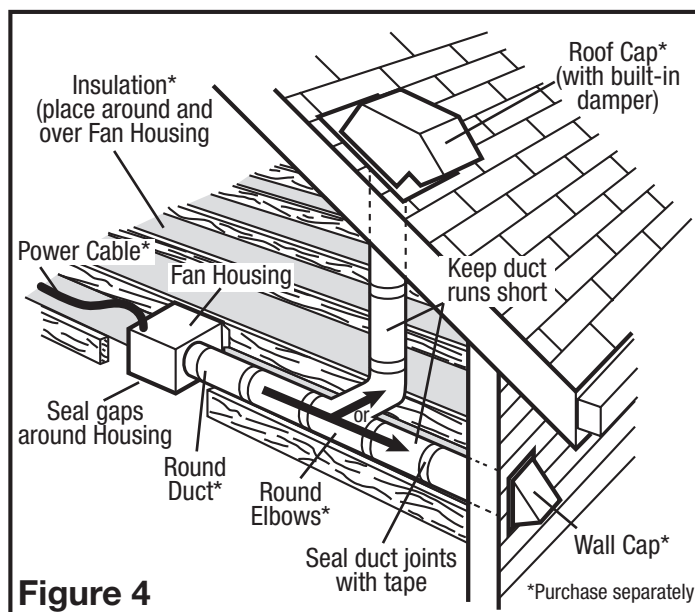

Figure 4
2. Ensure duct joints and exterior penetrations are sealed with caulk or other similar material to create an air-tight path to minimize building heat loss or gain and to reduce the potential for condensation. Place/wrap insulation around duct and/or fan in order to minimize possible condensation buildup within the duct, as well as building heat loss or gain (**Figure 4**).